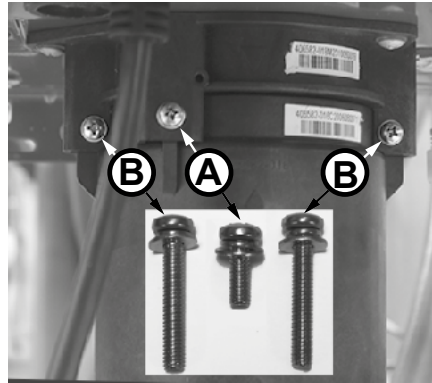

Figure 1 - Identify cartridge screws
- 5 Locate the three (3) screws securing the X3®/Bypass cartridge as shown in Figure 1. Remove the **A** M4-12mm screw and the two **B** M4-25mm screws from cartridge. Place screws aside in a safe place for reinstallation.